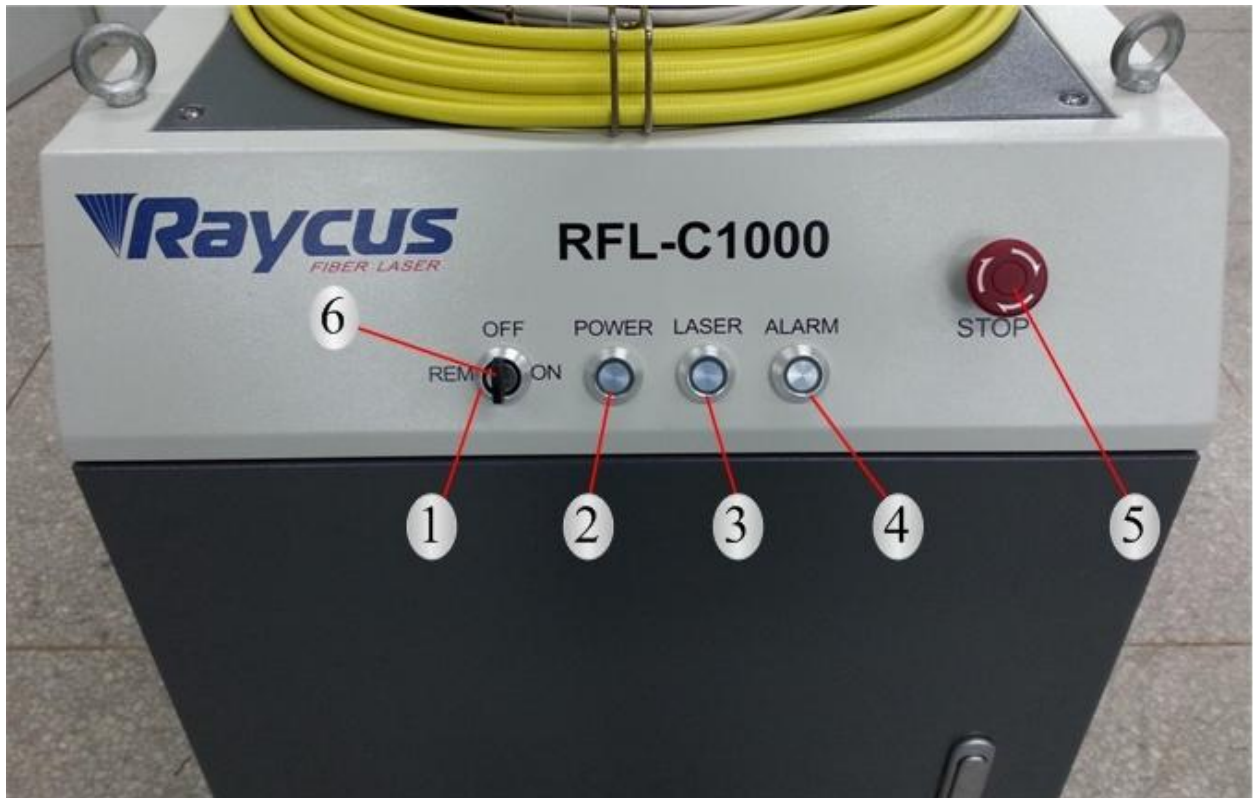

Figure 4: Front Panel View
Figure 4 shows the front panel(RFL-C1000 is shown as an example, and RFL-C1200 and RFL-C1500 have the same dimensions).
- 1. REM/OFF/ON:** Key switch, the power switch of the laser. Insert the key (**Item 6** in Figure 4); either turn the key clockwise to the “ON” position or counterclockwise to “REM” position will power on the laser. Then the laser will enter a control mode depending on your previous setup in the ‘CONTROL’ cable. You can refer to **4.6 Entering a Control Mode** for more details.